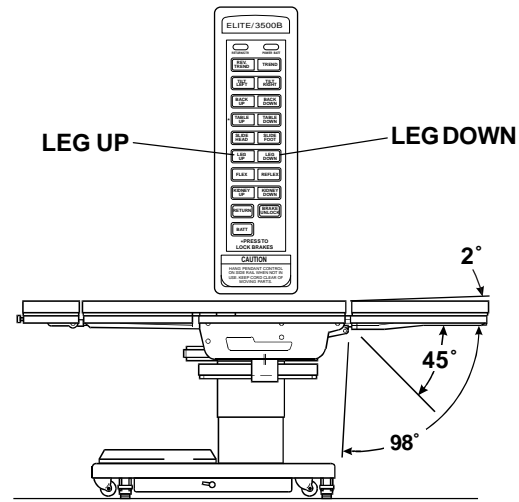

Figure 3-12. Leg Section Positioning
g. Leg Section. To lower the leg section, press the LEG-DOWN button (figure 3-12). The leg section will go down to 98° below horizontal. To raise the leg section, press the LEG-UP button. The leg section will go up to 2° above horizontal.